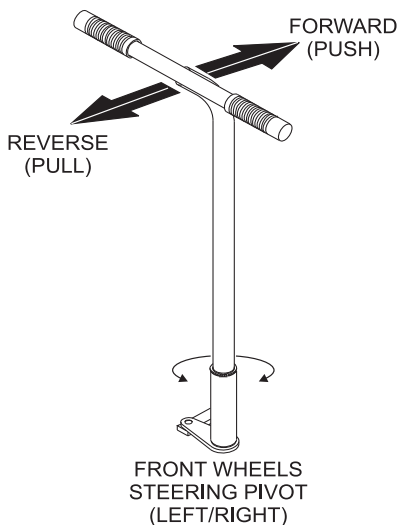

Figure 7. T-Handle (Directional Control)
1. Using the T-handle (Figure 7) place the GloBug on a **firm level surface** so that it will not slide or turn over.